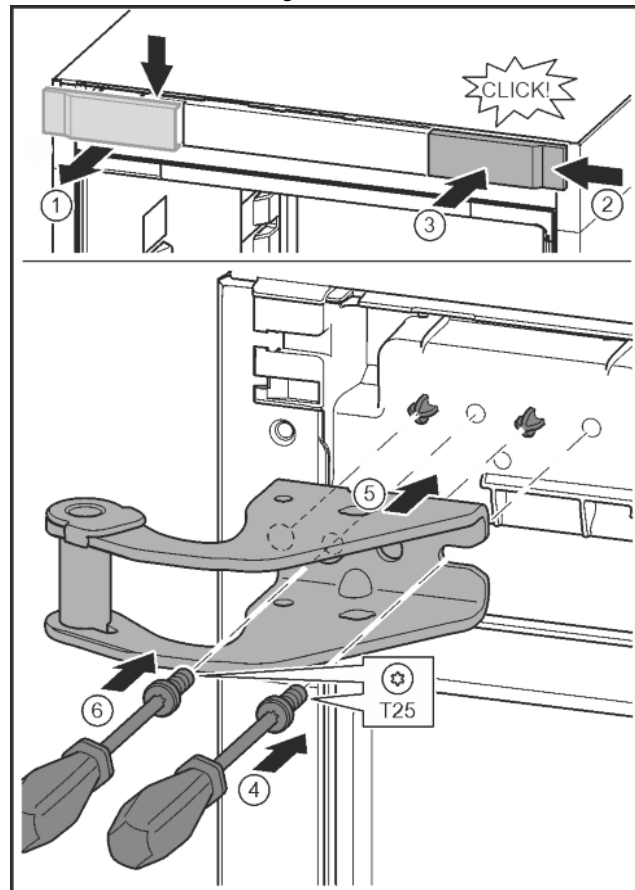

Fig. 13
- ▶ Release the cover and remove from the side. Fig. 13 (1)
- ▶ Rotate the cover 180° and clip onto the other side from the right. Fig. 13 (2)
- ▶ Click the cover into place. Fig. 13 (3)
- ▶ Position the screw with a T25 screwdriver. Fig. 13 (4)
- ▶ Position the upper bearing bracket. Fig. 13 (5)
- ▶ Tighten the screw. Fig. 13 (6)
- ▶ Insert the screw with a T25 screwdriver and tighten. Fig. 13 (6)